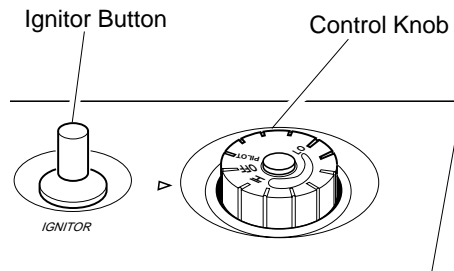

Figure 16 - Control Knob In The OFF Position
4. Wait five (5) minutes to clear out any gas. Then smell for gas, including near the floor. If you smell gas, STOP! Follow "B" in the safety information page 11, column 3. If you don't smell gas, go to the next step.
5. Turn control knob counterclockwise to the PILOT position. Press in control knob for five (5) seconds (see Figure 16).